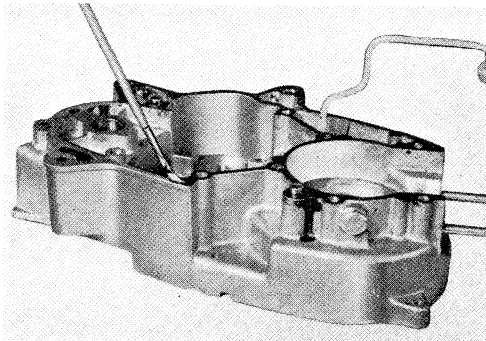

Fig. 5-5-10
5. When assembling the crankcase, remove oil and solidified remains of sealer from the joining surfaces with alcohol, coat evenly the joining surface of the crankcase left half with sealer and allow it to stand for about 2~3 minutes. (Fig. 5-5-10)